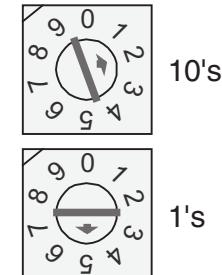

Fig. 7 — Address Rotary Switches
2. Using the rotary switches, set the controller address. Set the Tens (10's) switch to the tens digit of the address, and set the Ones (1's) switch to the ones digit. For example, if the controller address is 25, point the arrow on the 10's switch to 2 and the arrow on the 1's switch to 5. See Fig. 7.